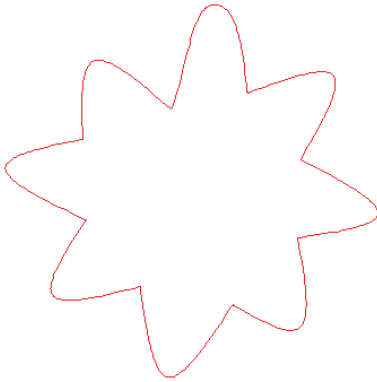

FIGURE 5.19 Abstract tree created by stretching kinks in a fit point spline
9. Click each kink grip, and move it in toward the center to create an abstract representation of a tree. Delete the five point objects that helped you lay out the tree (see Figure 5.19). If you have trouble selecting point objects, try changing their size with the DDPTYPE and REGEN commands.